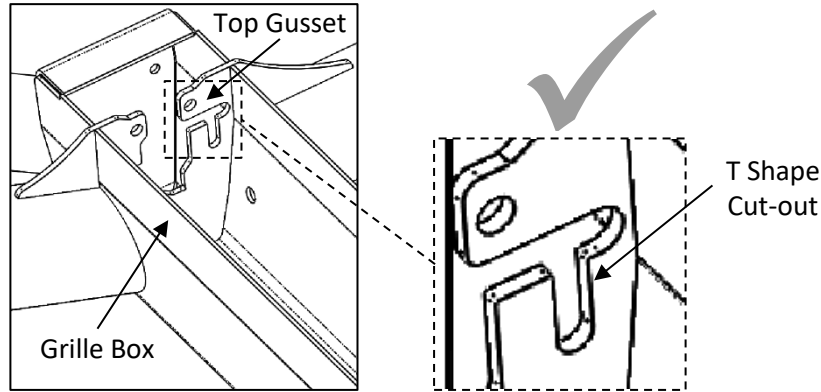
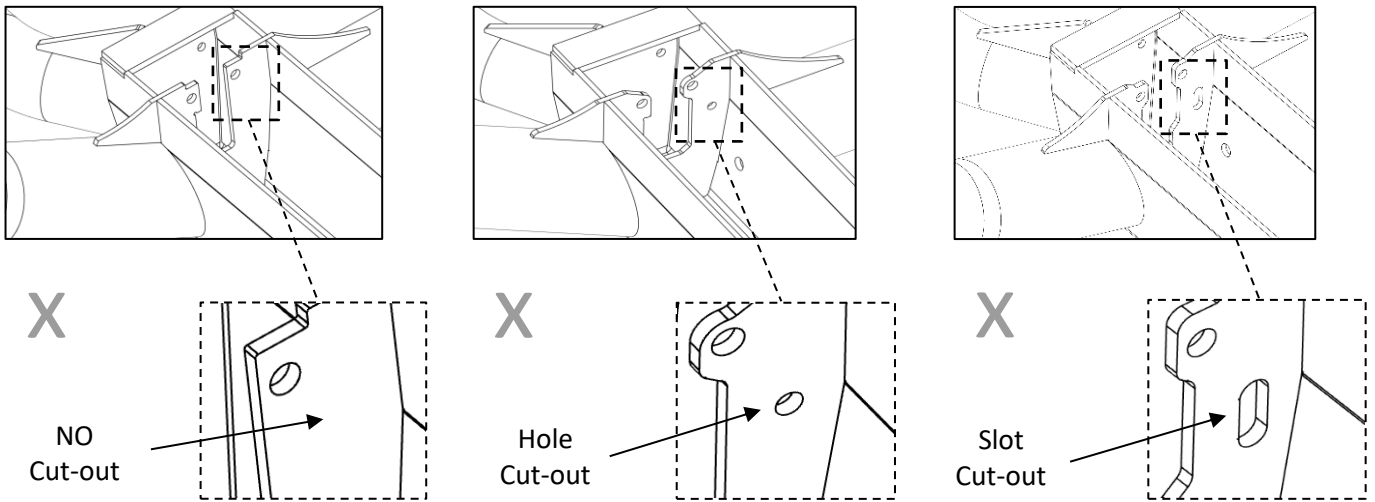

Figure B1: Shape of **Correct/T Shape** Top Gusset cut-out of Grille
Figure B2: Sample Shapes of **Incompatible** Top Gusset cut-out of Grille
B1. Check the shape of Top Gusset cut-out on your Grille as shown in Figure B1.
- If the shape of cut-out matches with **T shape** cut-out shown in Figure B1 then no modification required and return to step 2 of “Installing new Slam Latches”.
- If the shape of cut-out **DOES NOT** match with T shape cut-out shown in Figure B1, or if there exists no cut-out, then proceed to step B2 (**sample shapes on incompatible cut-outs are provided in Figure B2**).